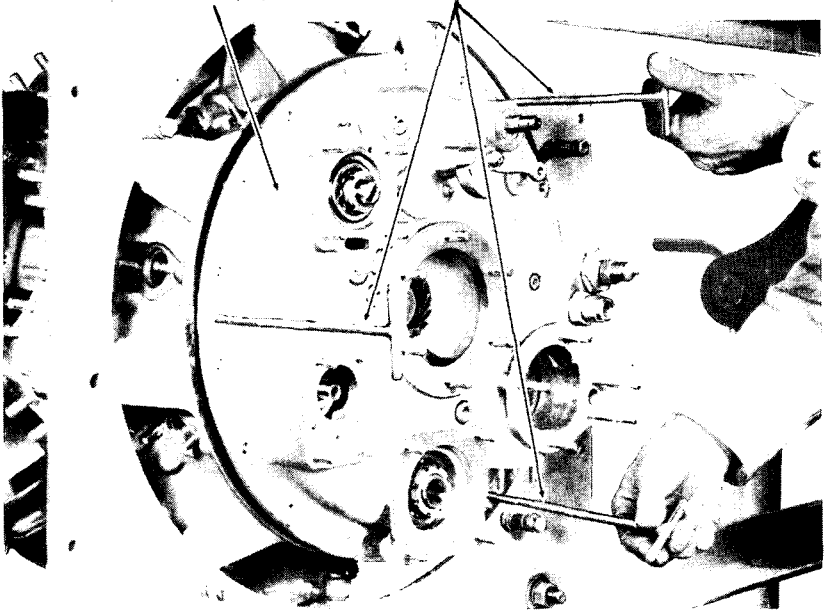

Figure 25—Removing the Accessory Case from the Crankcase
51. REMOVE THE ACCESSORY CASE (fig. 25).